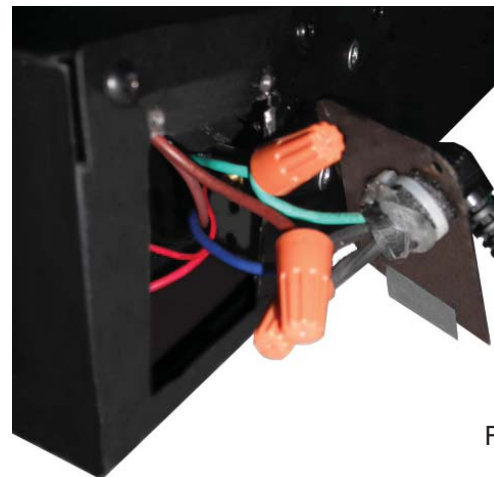

Fig. 3
- B. Remove the wire connectors and strain relief from the power cord. The power cord may be discarded. Refer to Figure 3.
- D. Using the wire connectors, connect the common wires together, then hot wires, and then the ground wires, refer to Figure 3.